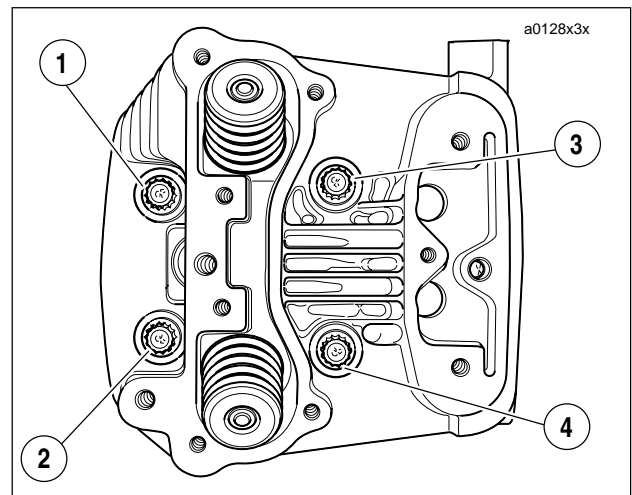

Figure 3-45. Head Screw Loosening/Tightening Sequence
Distortion to the head, cylinder and crankcase studs may result if head screws are not loosened (or tightened) gradually in the sequence shown in Figure 3-45.
- See Figure 3-45. Loosen each head screw 1/8-turn following the sequence shown.